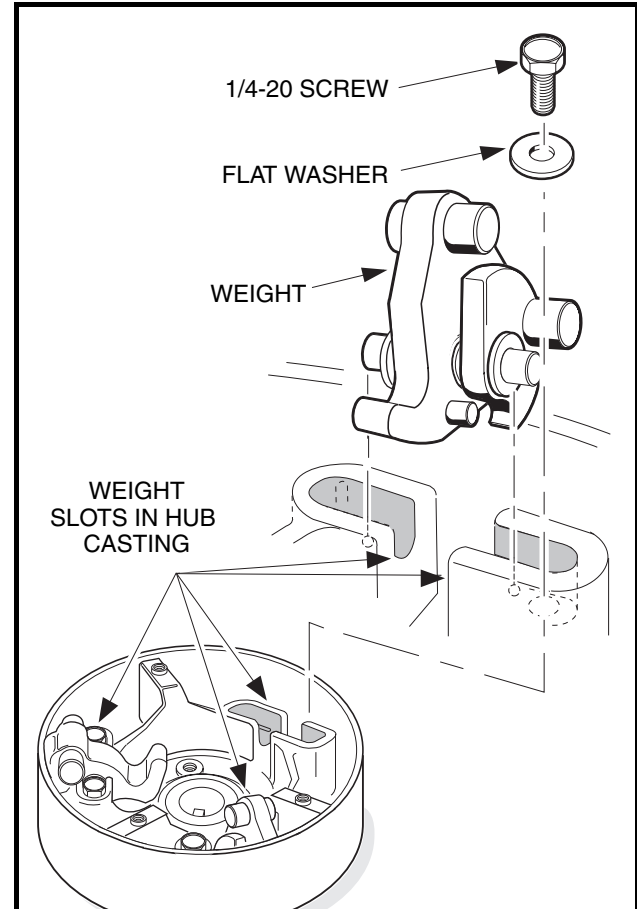
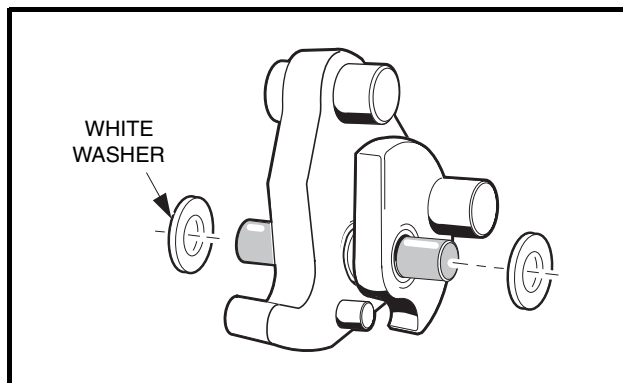

Figure 20-9 Weight Position
Figure 20-14 Install White Washers
5. Remove the clutch weights (Figure 20-9, Page 20-8):
- 5.1. Remove the screws and flat washers attaching the weights as shown (Figure 20-9, Page 20-8).
10. Install white plastic flat washers on each end of the mounting pin and push them against the outside surfaces of the weights. Center the weights and washers on the mounting pin (**Figure 20-14, Page 20-10**).
11. Install the weight assemblies into the slots in the hub casting (**Figure 20-9, Page 20-8**). Make sure the mounting pin protrudes an equal amount on each side of the weights when the assemblies are in position (**Figure 20-14, Page 20-10**).
15. Install a no. 10-24 button retaining screw with flat washer through each button and into the rib. Tighten the screws to 34 in-lb (3.8 N·m) (**Figure 20-9, Page 20-8**).